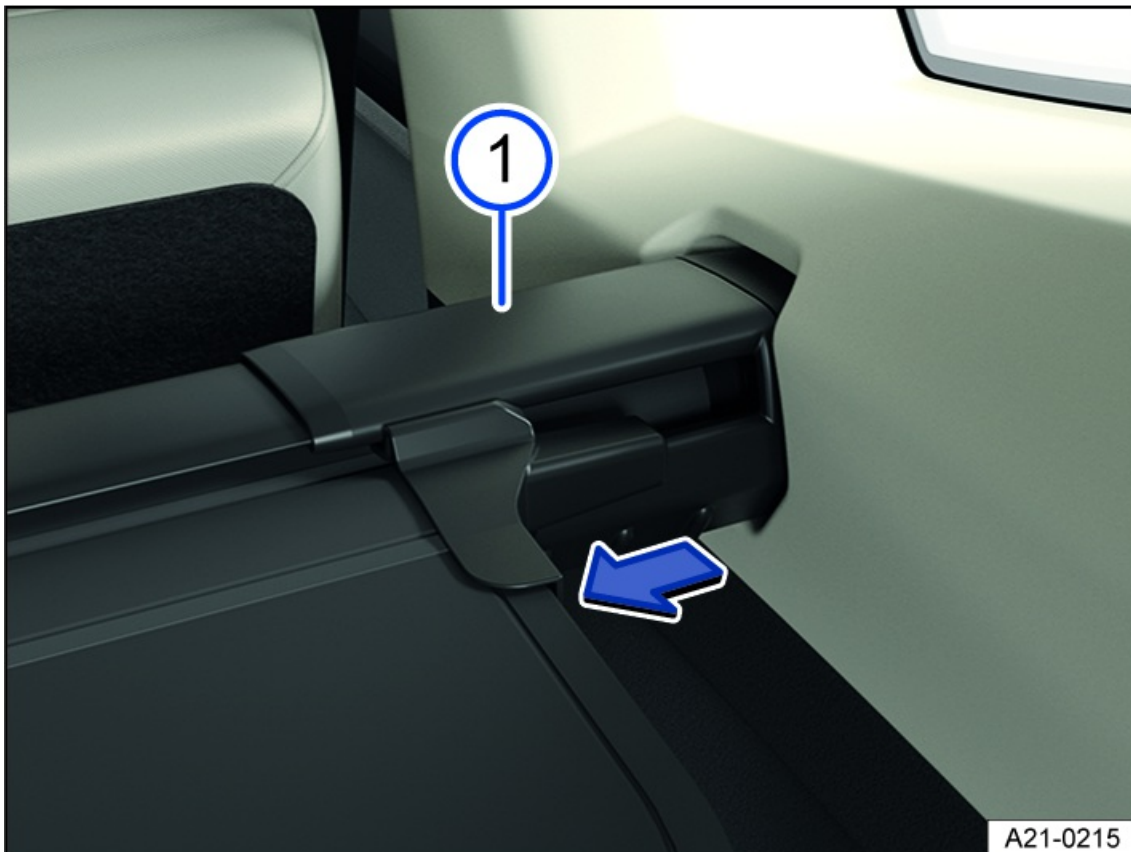

Fig. 172 In the luggage compartment: removing the luggage compartment cover.
2. Press the side panel on the luggage compartment cover *fig. 172* in the direction of the arrow and hold it in place.
4. Release the side panel on the luggage compartment cover *fig. 172*.
3. Guide the side panel *fig. 172* ① into the mount on the side trim panel.